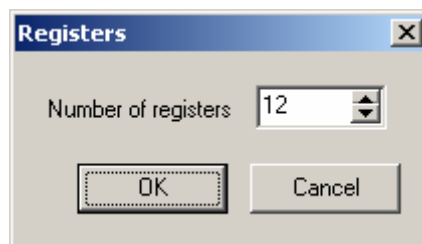

Figure 42: Xtra worksheet Registers pop-up window
- Select Project → Project Manager from the main menu, click on the -button, select "Xtra worksheet", click the "New" radio button in the next window and press "OK". In the next pop-up window, a number of 12 registers is suggested (Figure 42).